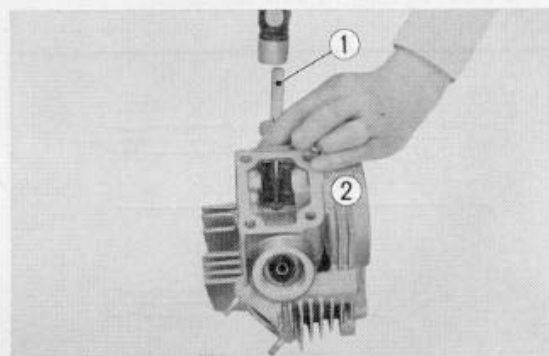

Fig. 3.22 ① Valve guide driver ② Cylinder head
5. When replacement of the valve guide becomes necessary, remove and replace with an oversize guide, use the valve guide remover (Tool No. 07047-04001) and the valve guide driver (Tool No. 07046-21601) for replacement operation. After installing the valve guide, use reamer to obtain the proper valve clearance. (Fig. 3.22)